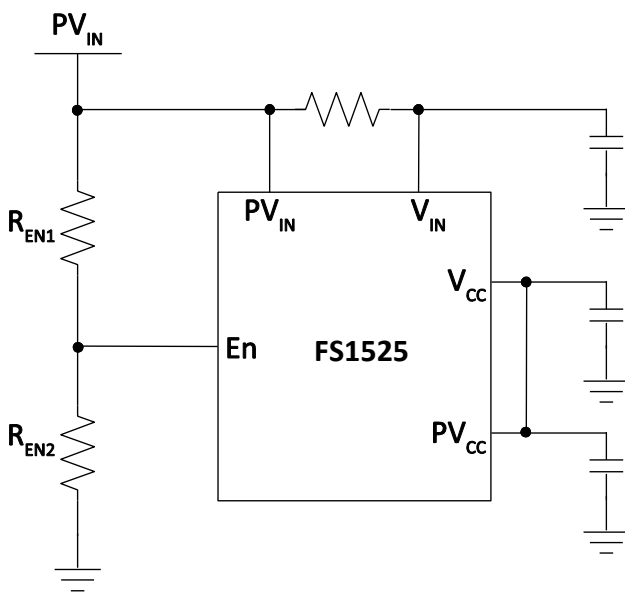
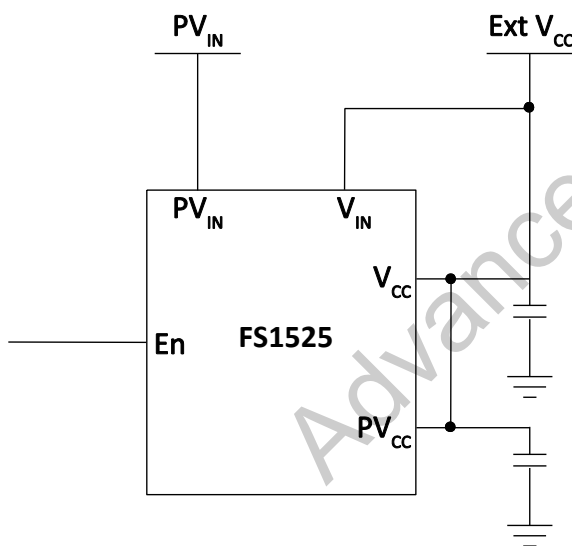

Figure 5 Single supply configuration: internal LDO regulator, adjustable PV_{IN_UVLO}
Figure 6 Using an external bias voltage
The FS1525 has an integrated Low Drop-Out (LDO) regulator, providing the DC bias voltage for the internal circuitry. The typical LDO regulator output voltage is 5.2V. For internally biased single-rail operation, the V_{IN} pin should be connected to the PV_{IN} pin (Figure 5). If an external bias voltage is used, the V_{IN} pin should be connected to the V_{CC} pin to bypass the internal LDO regulator (Figure 6). There is a separate pin to provide bias for the drivers (PV_{CC}); this should be connected to V_{CC} in the application circuit.
- It can be used to implement a precise input voltage UVLO. The input of the En pin is derived from the PV_{IN} voltage by a set of resistive dividers, R_{EN1} and R_{EN2} (Figure 5). Users can program the UVLO threshold voltage by selecting different ratios. A useful feature that stops the FS1525 regulating when PV_{IN} is lower than the desired voltage, this may be used for finer control over the PV_{IN} UVLO voltage levels than is provided by the VIN_ON/VIN_OFF commands.